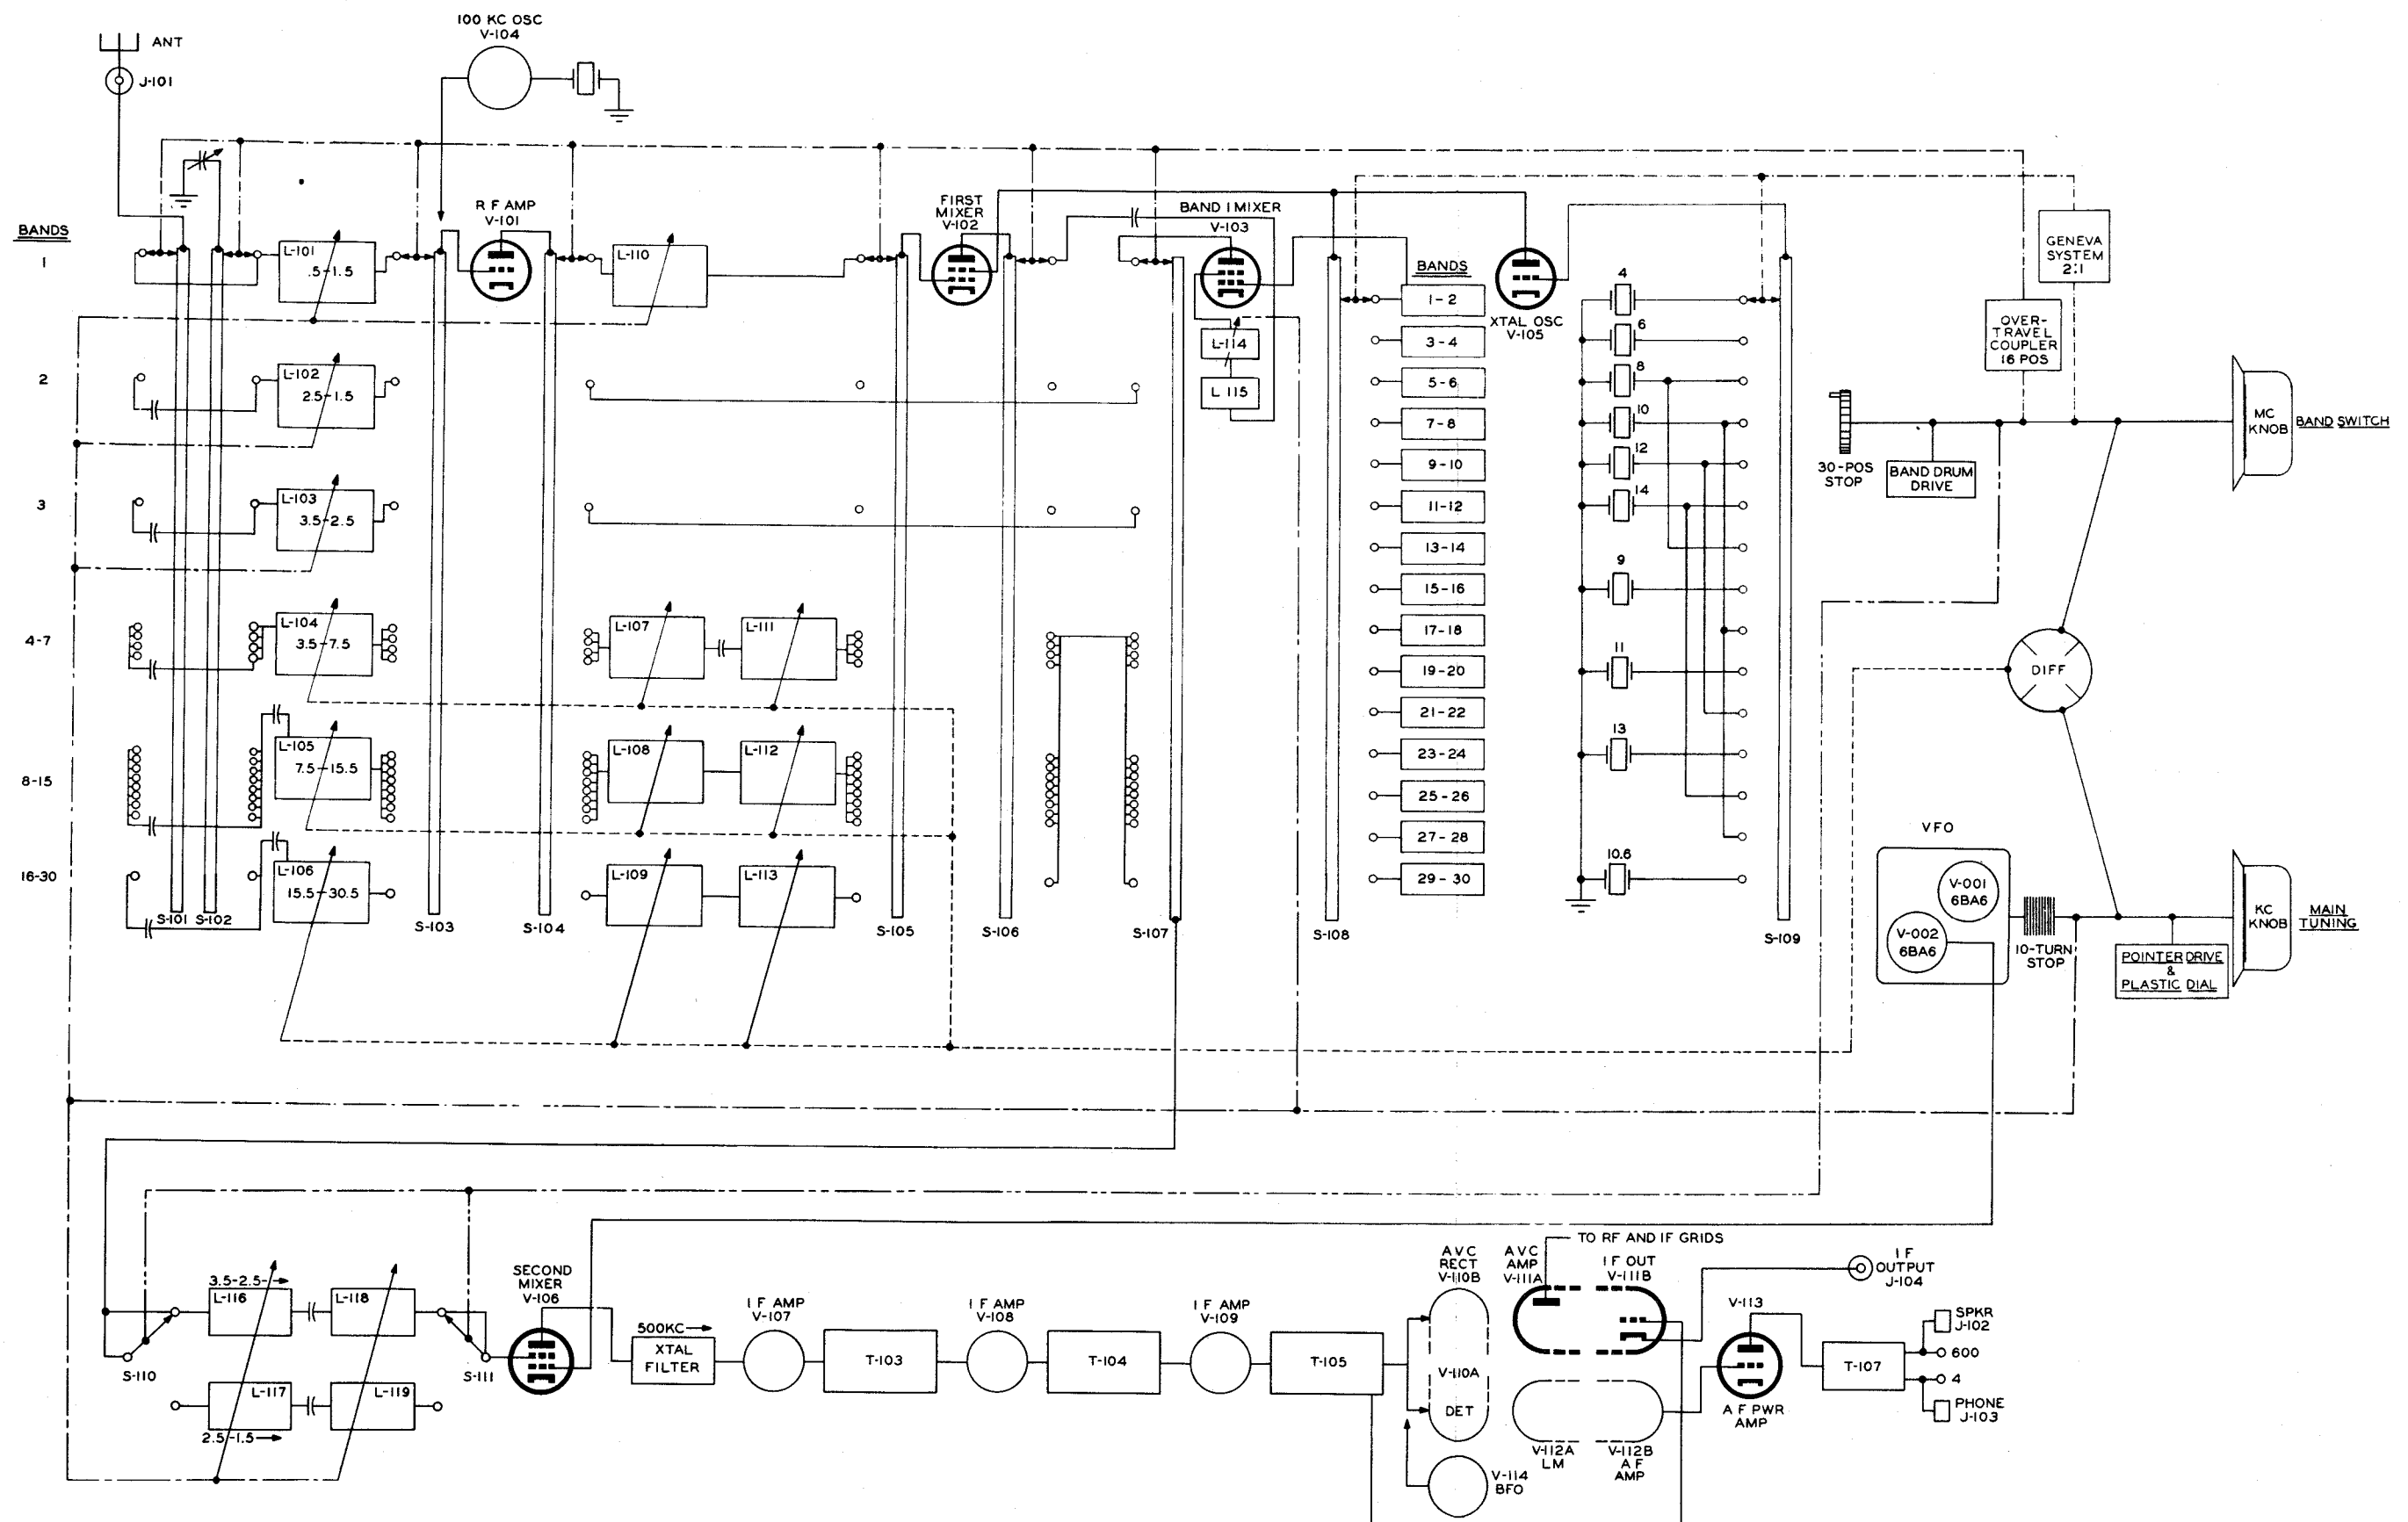

Figure 2-1. Band Change and Tuning System, Block Diagram
a. **BAND CHANGE.** - The receiver covers the frequency range of 0.5 to 30.5 mc in 30 bands: 0.5 to 1.5, 1.5 to 2.5, and so on up to 30.5 mc. Each band is one megacycle wide. Circuits affected by band changes are the r-f amplifier grid, first, second, and third mixer grids, crystal selector, and crystal harmonic tuning circuits. The third mixer is switched in only on band 1 (0.5 to 1.5 mc). See figure 2-1.
The control grid circuit of this stage is tuned on all bands, the tuned circuits being selected by r-f switch, S103. (See figure 2-1.) The antenna is capacitively coupled to the tuned circuits in the control grid through r-f switches, S101 and S102.